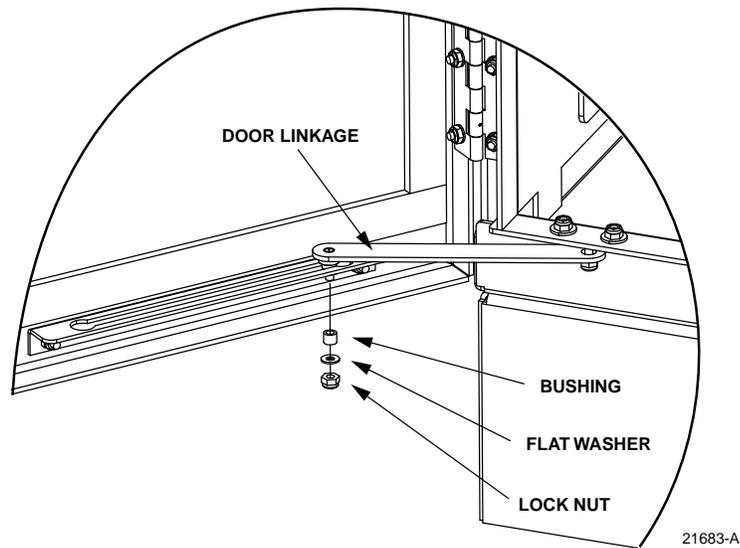

Figure 38. Door Linkage Hardware
3. Use a 3/8-inch nut driver and wrench to remove the locking nut, brass bushing, and capscrew that secures the door linkage to the door bracket as shown in Figure 38. Save the nut, bushing, and capscrew for reuse.